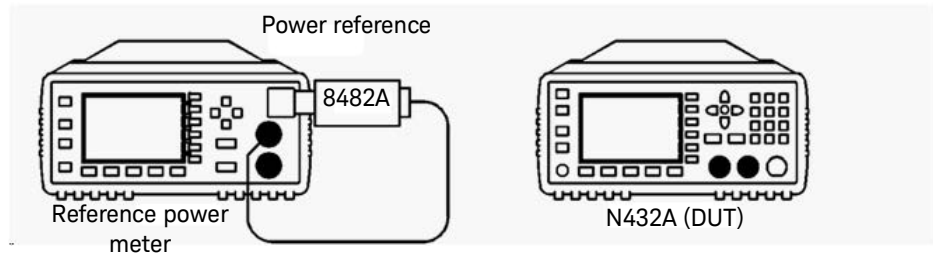

Figure 3-1 Connecting 8482A to Channel A for 1 mW power reference level test
- 2 Connect the 8482A sensor to Channel A and the power reference connector on the reference power meter as shown in Figure 3-1.